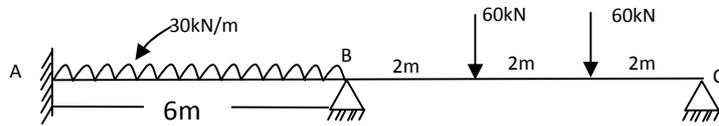

Fig.Q7
7. Using flexibility matrix method, analyze the beam shown in Fig. Q7. Sketch SFD and BMD (16 marks)